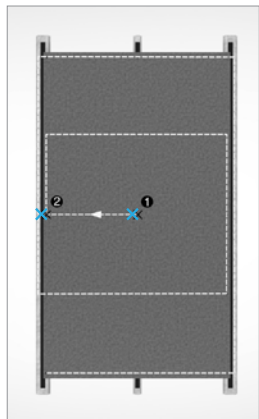

FIGURE 11.
- When installing Genesis, begin with the two fixed points (1 then 2), followed by the remaining gliding points above the fixing positions and finally the gliding points below. (see Figure 11)